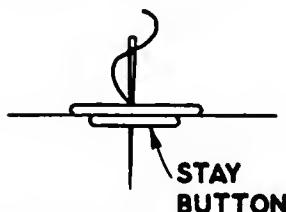

**Fig. 261. Button with shank.**
4. Sew back and forth through the shank and the cloth, keeping the stitches parallel to the edge of the garment. This places the strain on the shank (Fig. 261).